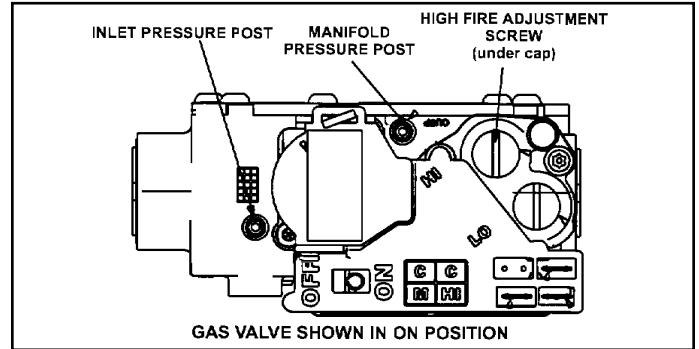

Figure 74.
- Move gas valve switch to OFF. See Figure 74.
- Move gas valve switch to ON. See Figure 74.
An inlet pressure post on the inlet side of the gas valve provides access to the supply pressure. See Figure 74. Back out the 3/32 Hex screw one turn, connect a piece of 5/16" tubing and connect to a manometer to measure supply pressure.
1. A manifold pressure post located on the gas valve provides access to the manifold pressure. See Figure 74. Back out the 3/32 Hex screw one turn, connect a piece of 5/16" tubing and connect to a manometer to measure supply pressure.